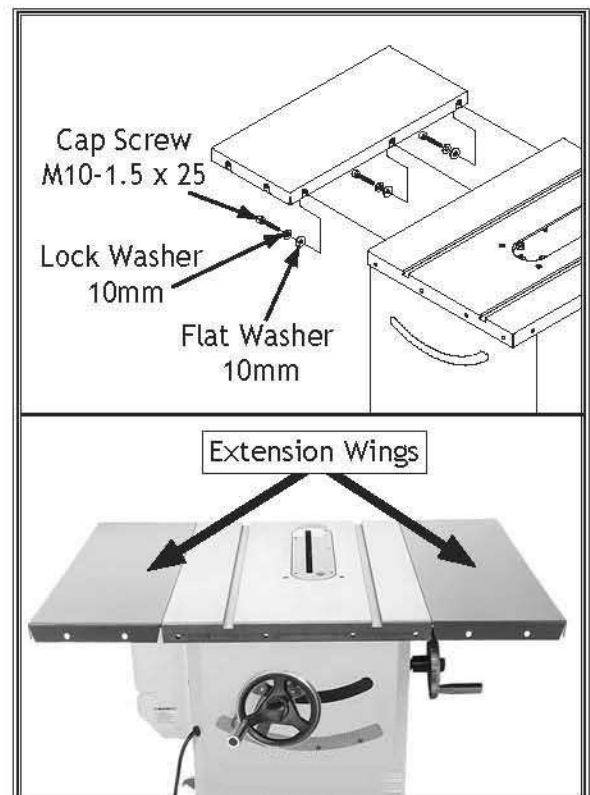

Figure 18. Extension wings installed.
8. With another person to hold wings in place, attach each extension wing to main table using (3) M10-1.5 × 25 cap screws, (3) 10mm lock washers, and (3) 10mm flat washers (see **Figure 18**).